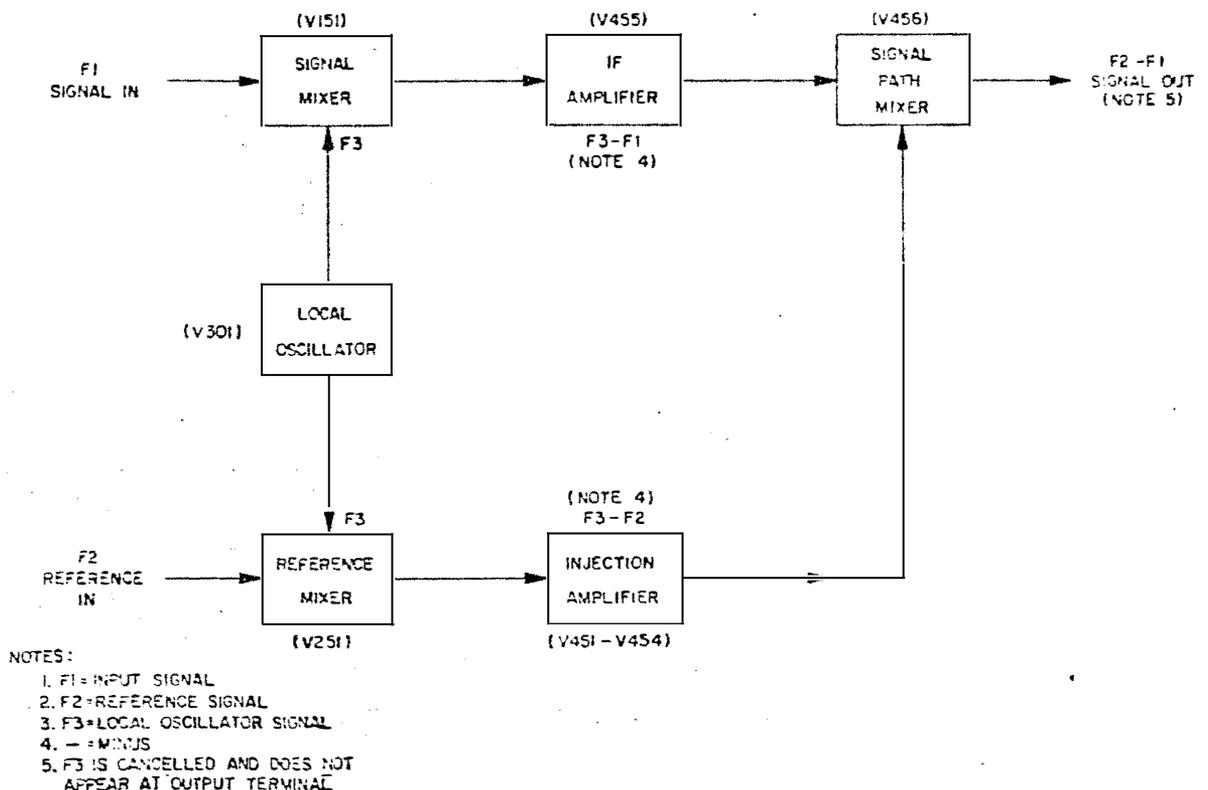

Figure 4-12. Basic Drift-Cancelling Loop, Block Diagram
(4) FREQUENCY DRIFT CANCELLATION. (See figure 4-12.) - A drift-cancelling loop for the high-frequency oscillator (V301) is formed by injection-amplifier stages V451, V452, V453, and V454. Figure 4-12 shows a basic block diagram of a drift-cancelling circuit which is similar to that used in the receiver. The following description explains the operation of the basic circuit. Notations at each block relate that block to a similar stage in the receiver.
With reference to figure 4-12, signal frequency F1 is applied to the signal mixer (V151), and reference frequency F2 to the reference mixer (V251). Local oscillator signal F3 is applied to both
The interpolation oscillator (V401) is omitted from figure 4-12 because it is not related to the drift-cancelling circuit. Frequency drift originating in the interpolation oscillator is not drift-cancelled. It is reduced to a minimum because of the low operating frequency used and through circuit design.